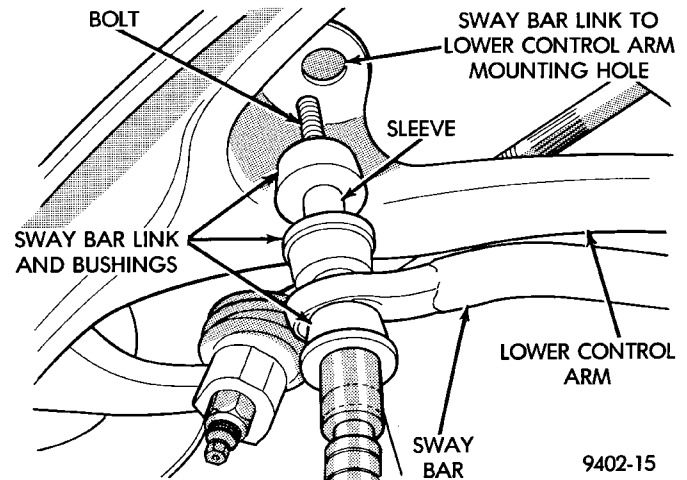

Fig. 44 Stabilizer Bar Link To Control Arm Attachment
(4) Align stabilizer bar attaching link and bushing assemblies with attaching link mounting holes in the lower control arms (Fig. 44). Install stabilizer bar attaching links into both lower control arms. Install the attaching link to stabilizer bar bushing and retaining nut. Torque the stabilizer bar attaching link nut (Fig. 44) to 28 N·m (21 ft. lbs.).
(5) Lower vehicle so the suspension is supporting the total weight of the vehicle.
(6) With lower control arms of the vehicle at curb height, tighten stabilizer bar bushing to crossmember retainer attaching bolts to 28 N·m (21 ft. lbs.) torque.